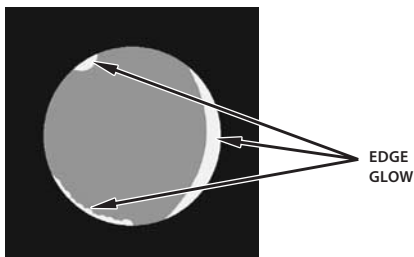

Figure 3-4. Edge Glow
(2) Edge Glow. Edge glow is a bright area (sometimes sparkling) in the outer portion of the viewing area (see Figure 3-4).